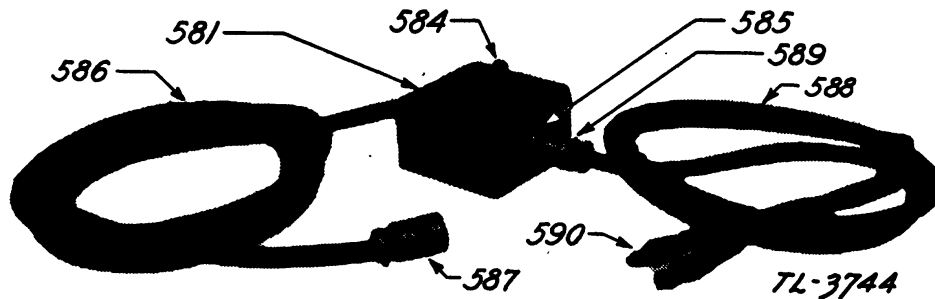

FIGURE 39.—Parts identification for junction box JB-40.
62. Junction box JB-40.—See figure 39 for identification of parts.